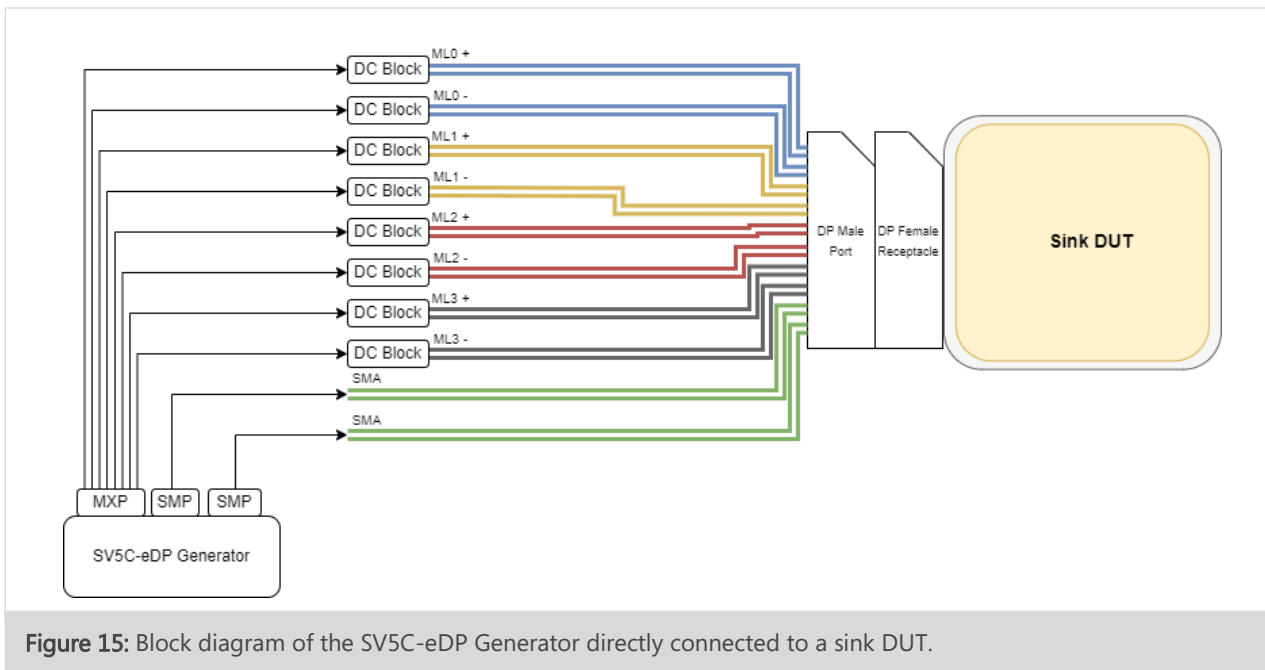

Figure 15: Block diagram of the SV5C-eDP Generator directly connected to a sink DUT.
The SV5C-eDP Generator’s main links (ML) and AUX channel shall be **directly connected** to the monitor according to the diagram in Figure 15.